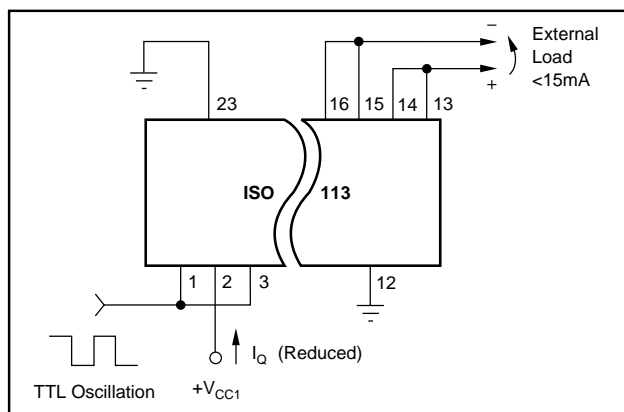

FIGURE 5. Reduced Power Dissipation.
Single or multichannel synchronization with reduced power dissipation for applications requiring less than $\pm 15mA$ from V_{CC1} is accomplished by driving both the Sync input pin (3) and Enable pin (1) with the TTL oscillator as shown in Figure 5.